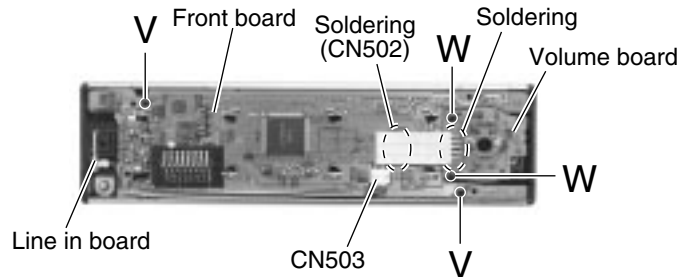

Fig.25
■ Removing the volume board (See Fig.25 and 26)
■ Removing the line in board (See Fig.25 and 27)